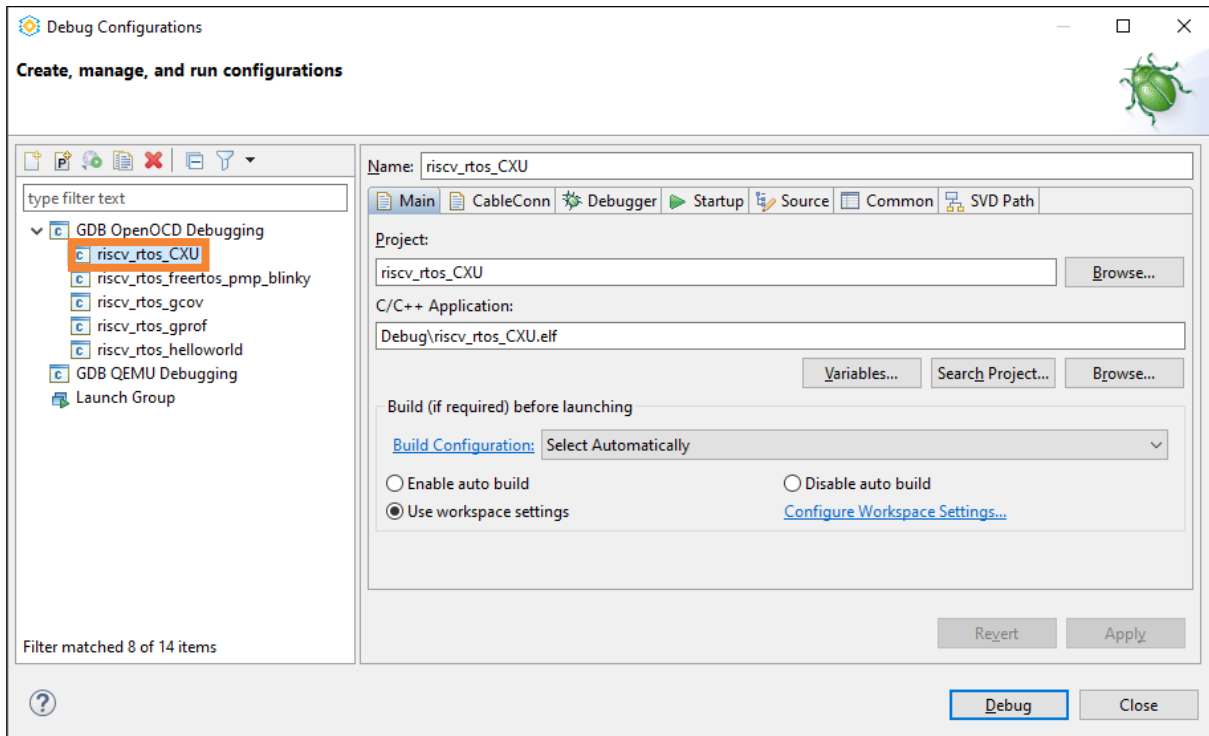

Figure 8.3. Debug Configurations Dialog 6
3. Select riscv_rtos_CXU in **GDB OpenOCD Debugging** (Figure 8.3).